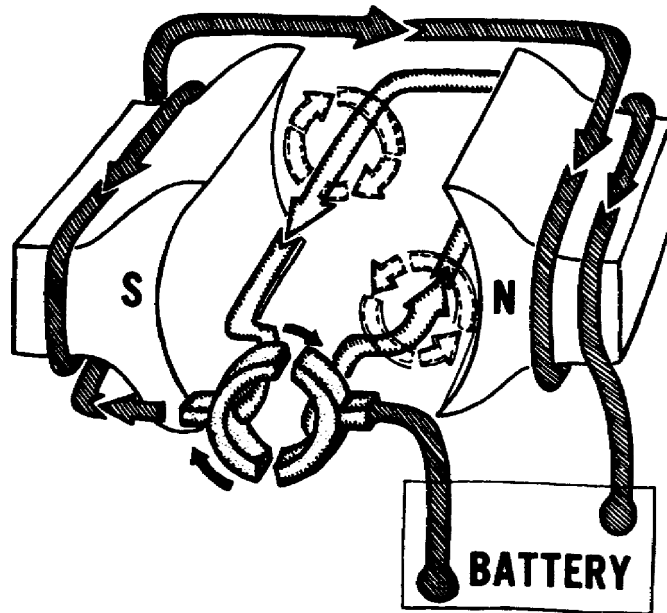

Figure 3. Series wound motor.
i. Most starter motors are series motors (fig 3). They are called series motors because the rotating loop and the windings around the magnetic poles are connected in one (series) path. The current flowing through the loop also flows through the windings. In an actual motor, the windings around the pole shoes are called field windings because they help produce the magnetic field. The purpose of the field winding is to produce a strong magnetic field so that the loop will receive a more powerful push. Note that the poles are curved. They are curved so the conductors of the loop can pass as close as possible to the poles as they move past. Since the magnetic field is strongest near the poles, the conductors in the loops are given a stronger push.